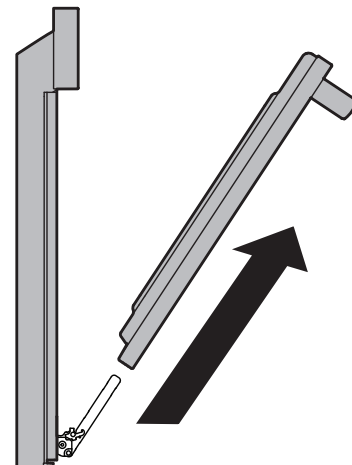

Figure 31: Remove door
4. Pull the bottom of the door toward you while rotating the top of the door toward the appliance to completely disengage the hinge levers (Figure 31).
1. Firmly grasp both sides of oven door along the door sides. Do not use the oven door handle (Figure 31).